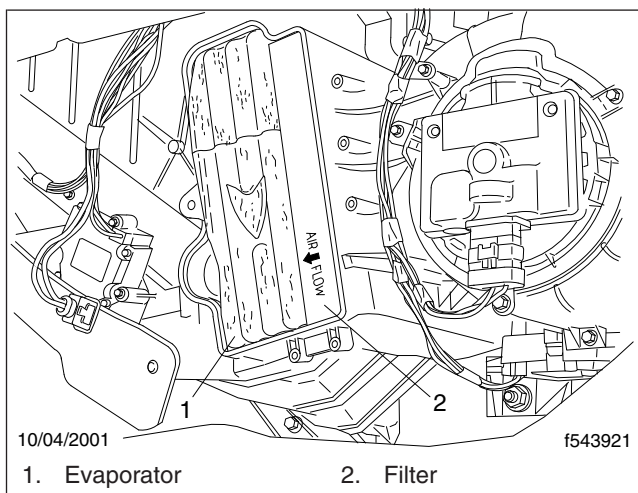

Fig. 2, HVAC Assembly Filter
6. Install a new filter in the HVAC assembly. Be sure that the arrow on the filter is pointing toward the evaporator. See **Fig. 2**.